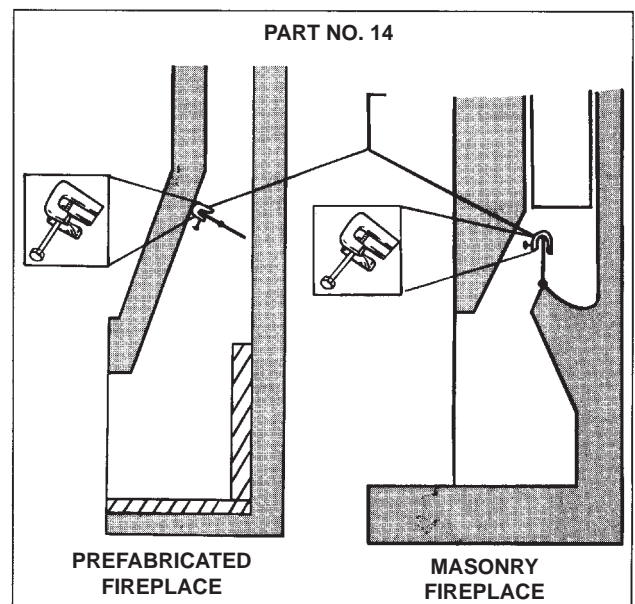

Figure 2. Damper stop clamp
- B. Open fireplace damper fully and install Damper Stop Clamp with 1/4x2" set screw (Part 14#). This clamp is designed to allow any pilot combustion by-products to vent (See figure 2.) Should the Damper Stop Clamp supplied not fit, a permanent damper stop clamp must be installed that will keep the damper open at a distance of not less than 1 1/2". Damper must be full open position anytime this unit is in operation.